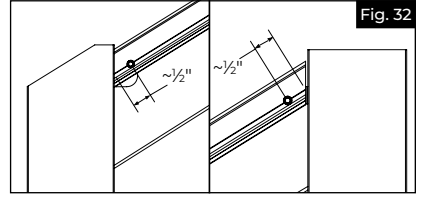

Fig. 32
- Place beam between posts and press onto brackets. Use provided hex head screws and attach one screw at the end of the beam at each post (one at upper post and one at lower post). Use the line etched into the beam as a guide for your screw. Screw should be on the line and approximately $\frac{1}{2}$ " from the end of the beam (Fig. 32).